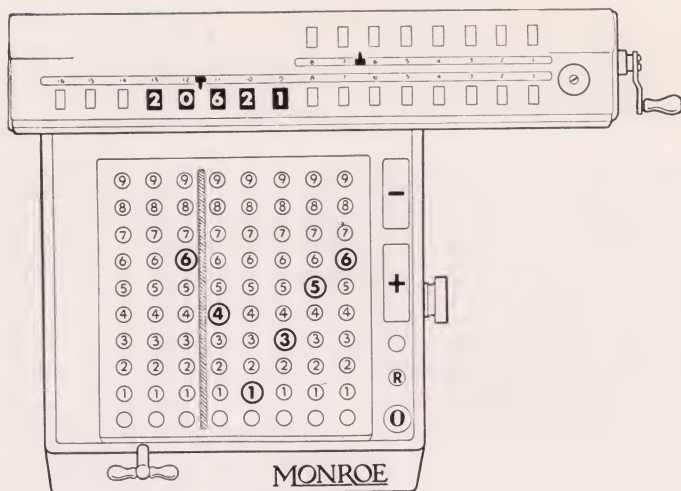

Figure 11
Step 4—Clear the keyboard and upper dials as previously described by means of the master clear key and minus bar. Set 6.41356 on the keyboard and with carriage in "7" position start the division as indicated in Figure 11.